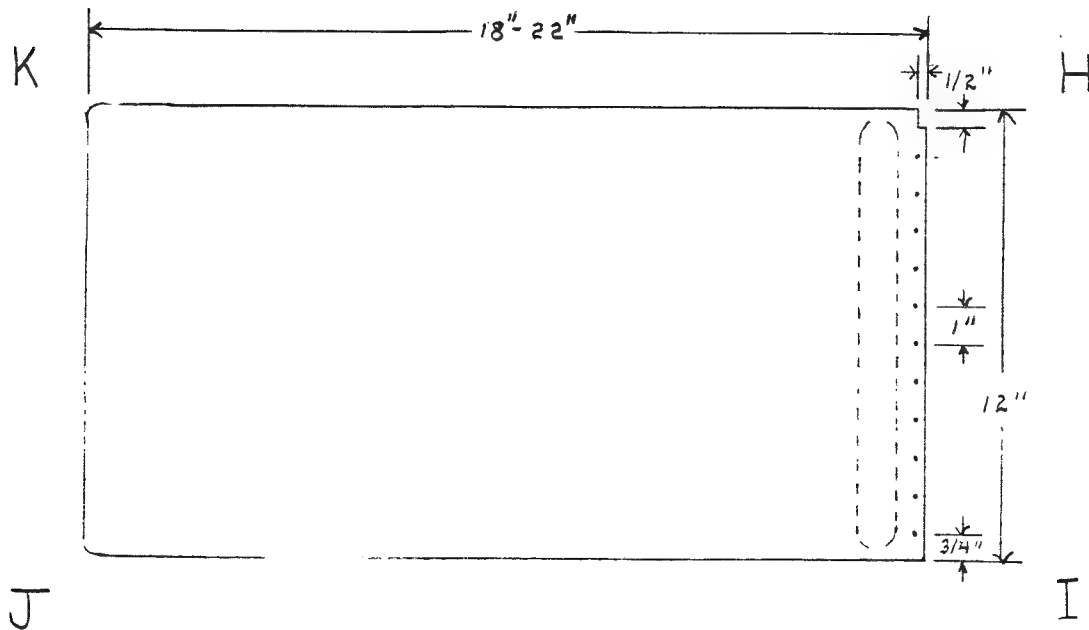

Fig. 5 Laptray (top view, look down through support)
- 4) Cut a $1/4"$ X $1/2"$ notch at corner H and remove sharp corner at I by filing it slightly (Fig. 5).
- 5) Drill 11 holes centered $1/4"$ from side HI beginning $3/4"$ from side IJ and continuing at $1"$ intervals to side KH using a $5/32"$ drill bit (Fig. 5)
- 6) Round off the corners and edges of the $11\ 1/2"$ X $1"$ Lexan guard and attach it to the bottom side of the support $3/4"$ from side HI and $1/4"$ from side IJ with polycarbonate adhesive (Fig. 5).